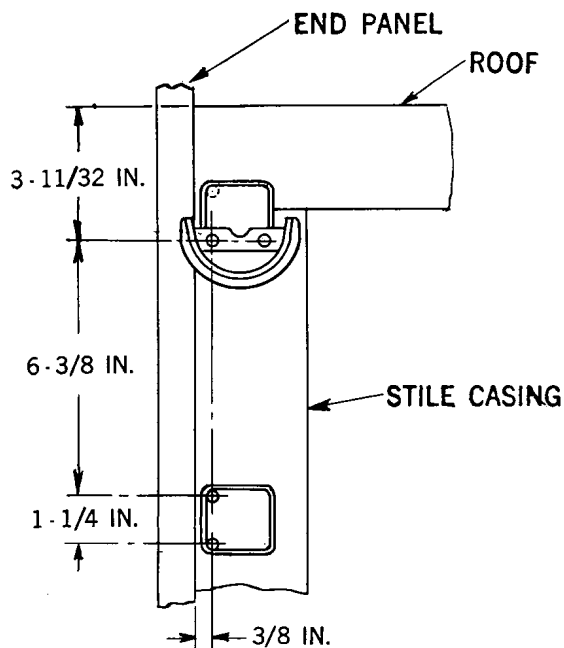

Fig. 4 – 555 Switchboard
4.03 Early manufactured 555 switchboards were provided with a piece part handset hanger which was fastened to the stile casing with wood screws. Fig. 4 shows the recommended location if it becomes necessary to replace the